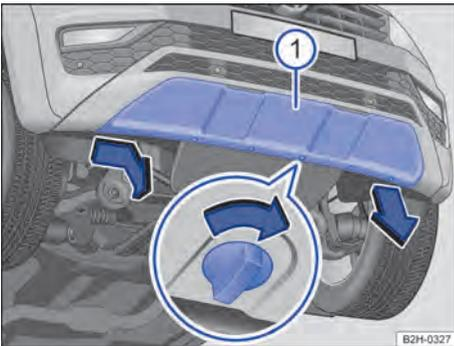

Fig. 178 On the front bumper on the right: cover, variant 2.
① Cap
1. Turn the locking screws approximately 90 degrees in the direction of the arrow → Fig. 178.
2. Turn the cover slightly downwards and remove a locking tab from the bumper on the right side of the vehicle ①.
4. Remove the remaining fastening straps from the bumper and place the cover securely on the vehicle ①.